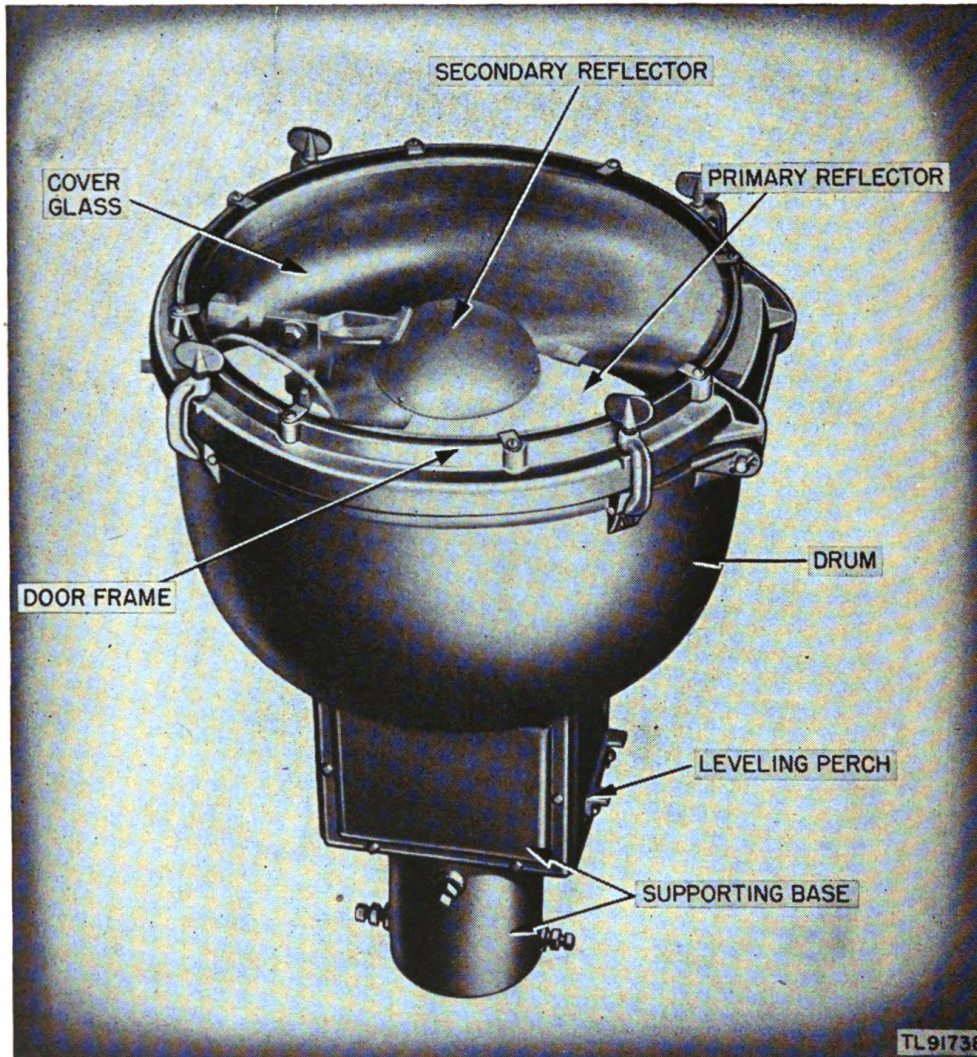

Figure 2. Ceiling Light Projector ML-121-D.
b. CEILING LIGHT PROJECTOR ML-121-D (fig. 2). (1) Loosen the four setscrews in the slip fitter, and unscrew them until they do not project through the walls of the casting.
(2) Mount the unit on top of the 4-inch vertical pipe provided for this purpose.